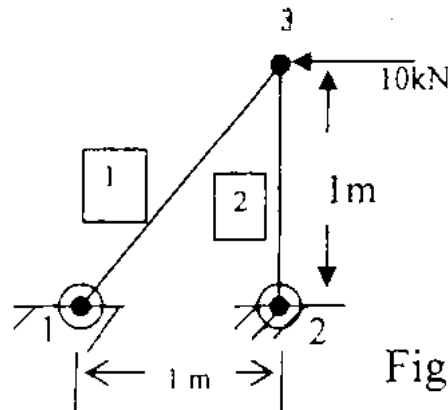

Fig. 2
- 12 For the plane truss shown in Fig2... Determine